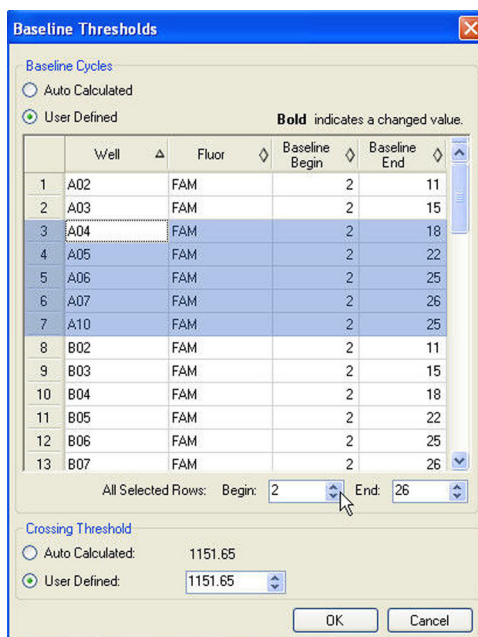

Figure 49. Baseline Thresholds window.
2. Adjust the crossing threshold (Figure 49) for the fluorophore by clicking **User Defined** and entering a threshold number.
The software automatically sets the baseline individually for each well. Once you select the wells for analysis, check the baseline settings in these wells. Open the Baseline Thresholds window (Figure 49) to change the default baseline for selected wells. To open this window:
2. Adjust the **Baseline Begin** cycle and **Baseline End** cycle for all selected wells or change the **Begin** and **End** cycle number at the bottom of the spreadsheet (Figure 49).